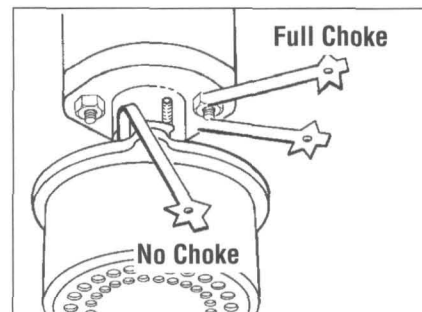

Figure 4-9: Choke Lever.
4. Put the engine CHOKE LEVER (Figure 4-9) in the Full Choke position (on the 4HP engine, use of the choke may not be necessary if the engine is warm).